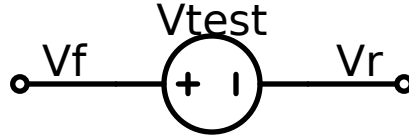
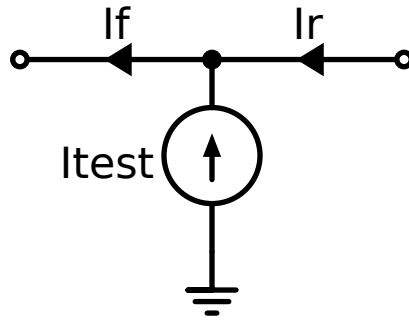

Figure 40: Middlebrook voltage loop gain simulation.
Figure 41: Middlebrook current loop gain simulation.
When we want to do a closed-loop gain analysis (for stability or other investigations), we have the need to break the loop at one point, apply a stimulus, and monitor the response on the other end. By doing this we want to keep the loading on both ends similar to the original case. To achieve this, we break the loop at one point by inserting (1) an ac voltage source, and (2) attach an ac current source, as shown in Figure 40 and Figure 41. The